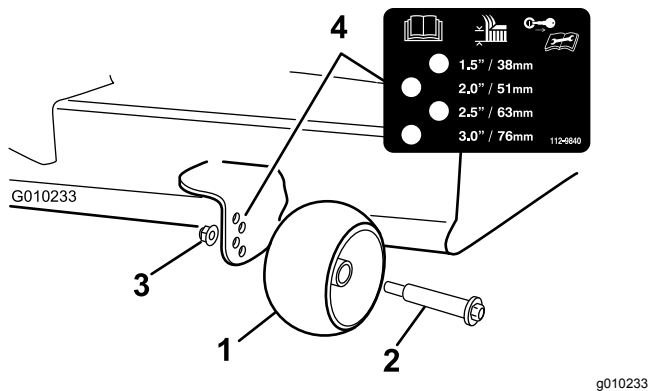

Figure 28
3. Adjust the anti-scalp rollers as shown in Figure 28 to match the closest height-of-cut position.